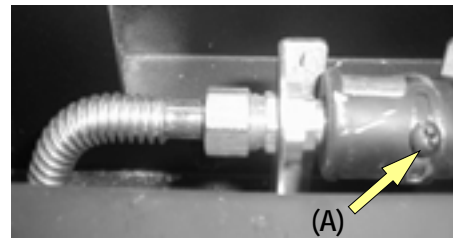

Figure 3
To adjust the venturi, loosen the screw (A) and adjust venturi opening to either the Natural Gas or LP Gas setting listed below. Re-tighten the screw. See Figure 3.